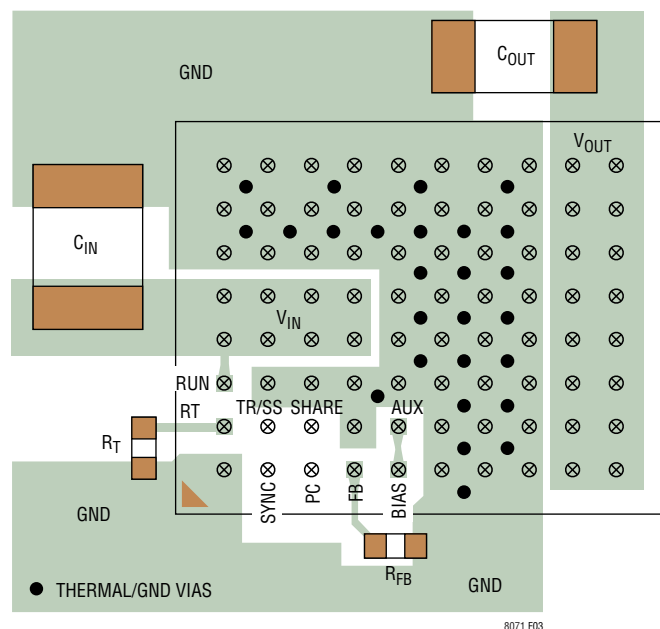

Figure 3. Layout Showing Suggested External Components, GND Plane and Thermal Vias
operation with a haphazard or poor layout. See Figure 3 for a suggested layout. Ensure that the grounding and heat sinking are acceptable.
6. Use vias to connect the GND copper area to the board's internal ground planes. Liberally distribute these GND vias to provide both a good ground connection and thermal path to the internal planes of the printed circuit board. Pay attention to the location and density of the thermal vias in Figure 3. The LTM8071 can benefit from the heat-sinking afforded by vias that connect to internal GND planes at these locations, due to their proximity to internal power handling components. The optimum number of thermal vias depends upon the printed circuit board design. For example, a board might use very small via holes. It should employ more thermal vias than a board that uses larger holes.